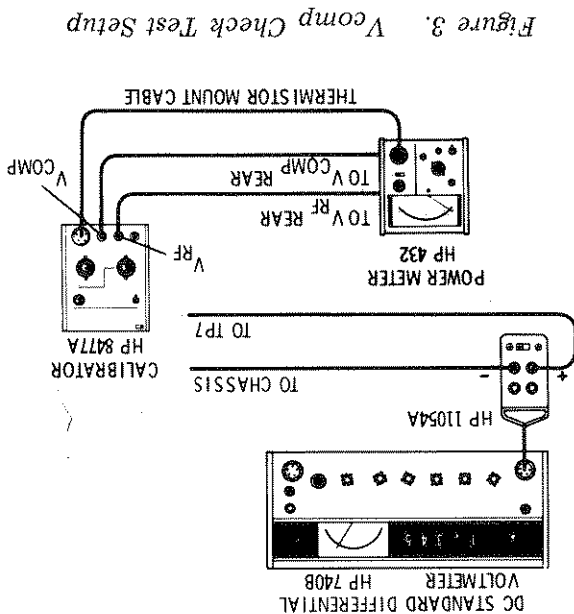

Figure 3. V_{comp} Check Test Setup
- e. Connect the equipment as shown in Figure 3.